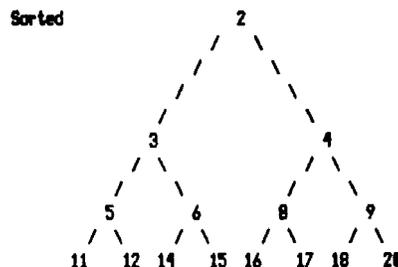

Figure h3
- DONE: Figure h3 shows the finished sort!